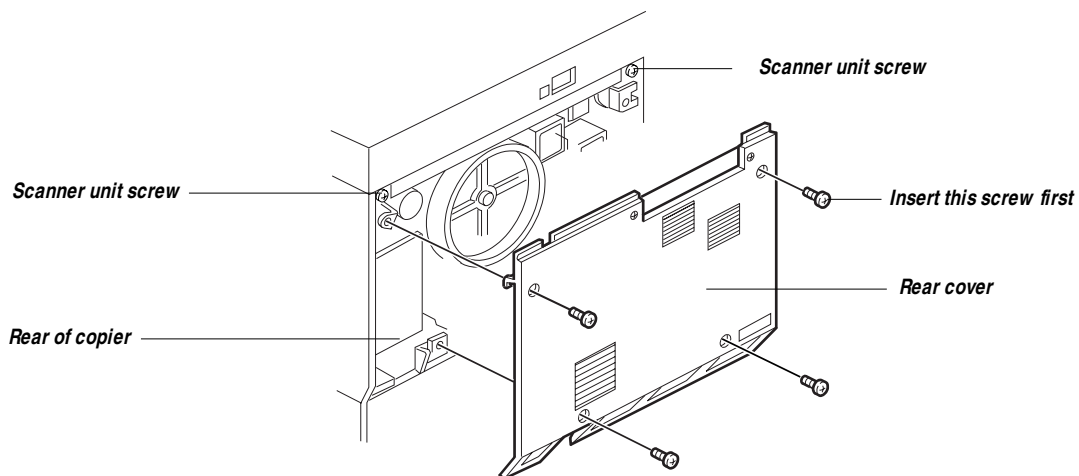

Figure 2-18 Replacing the rear cover
1. *Replace the two scanner unit screws at the rear of the copier. These two screws secure the scanner unit to the copier (see Figure 2-18).*